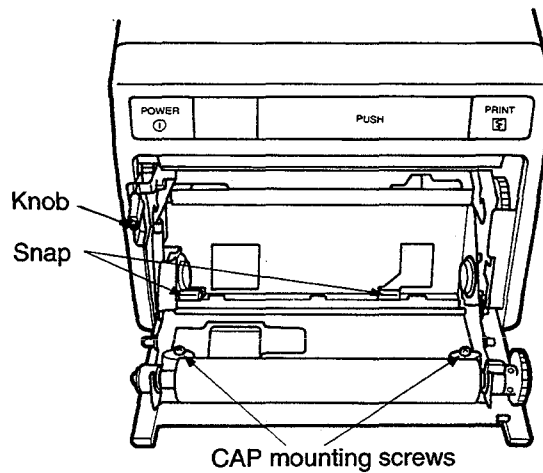

Fig.1-2
2. Remove the CAPS. (Fig 1-2)
3. Remove the 2 snaps using a driver. (Fig.1-2)
2. Remove the DOOR. (Fig.1-2,1-3)
1. Remove the DOOR. (Fig.1-2,1-3)